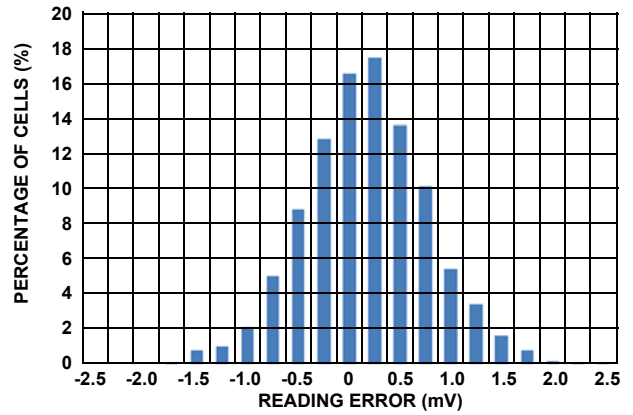

FIGURE 6B. CELL READING ERROR FROM EVALUATION BOARDS AT CELL VOLTAGE FROM 2.6V TO 4.0V, AND -20°C TO +60°C HISTOGRAM
- Stresses may be induced in the ISL78600 during soldering or other high temperature events that affect measurement accuracy. Initial accuracy does not include effects due to this. See Figure 6B for cell reading accuracy obtained after soldering to Intersil evaluation boards. When soldering the ISL78600 to a customized circuit board with a layout or construction significantly differing from the Intersil evaluation board, design verification tests should be applied to determine drift due to soldering and over lifetime.